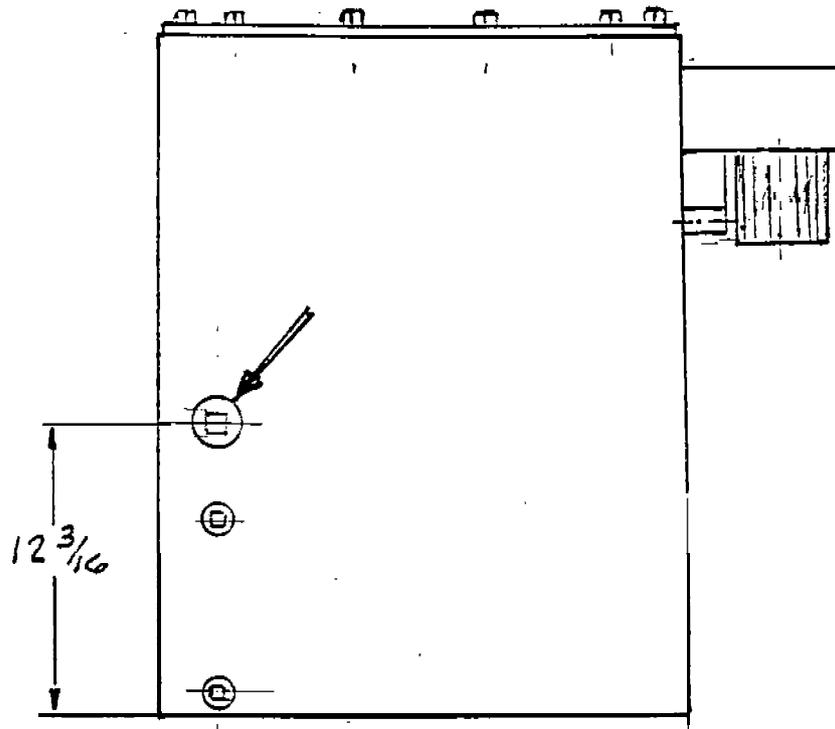

Figure 15. Location of Exhaust Conditioner Normal Operating Level Test Plug
- (WEEKLY) 29. () Test for appropriate exhaust conditioner normal operating level. Operate engine for minimum of 5 minutes. Shut engine down and remove 1 1/4 NPT plug (located 12 3/16 from outside bottom of tank). Water level should then be 2 inches below the bottom of the fill port. Checking maybe accomplished by using a straight rod with a 2 1/4" portion bent 90 degrees. Location of operating level shown in Figure 15.